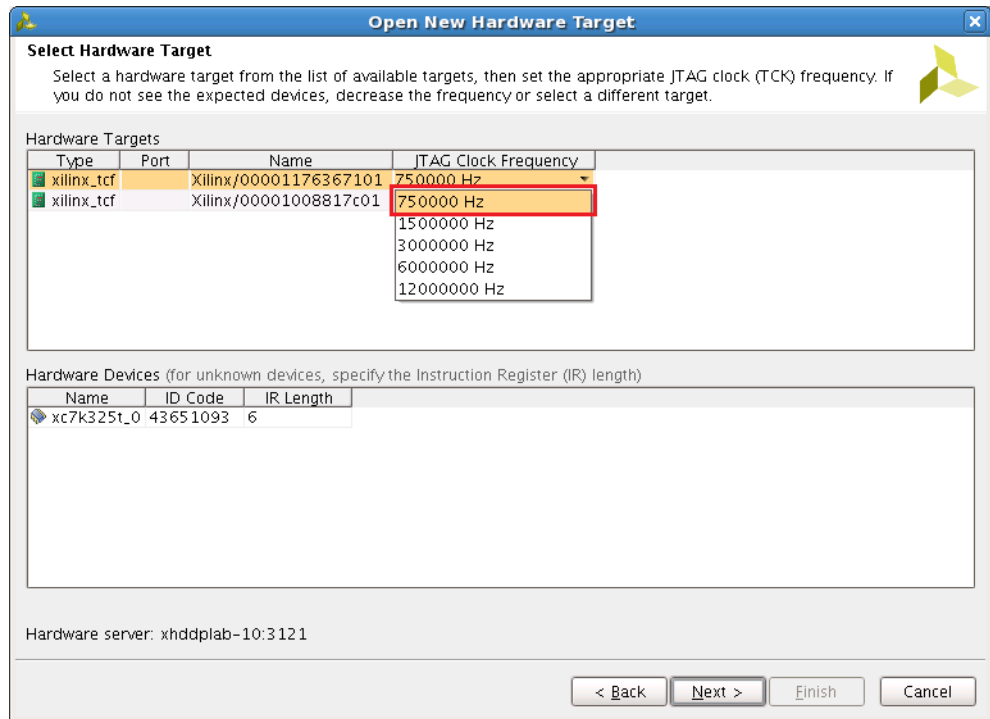

Figure 21: Select Hardware Target
4. On the Select Hardware Target page, set the **JTAG Clock Frequency** for both boards to **750000 Hz** (Figure 21).